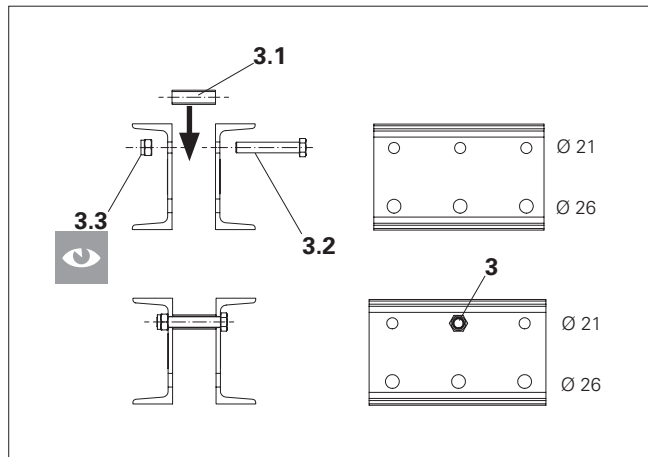

Fig. C2.06
3. Attach self-locking nut M20-8 (**3.3**) (AF 30) to the bolt and tighten. Tightening torque min. 100 Nm. (Fig. C2.06)
(Fig. C2.06)